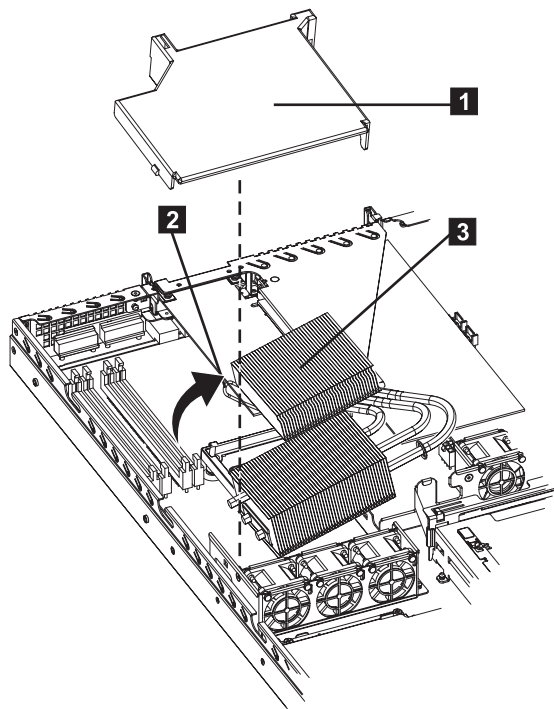

Figure 179. SAN Volume Controller 2145-8A4 air baffle and heat-exchanger assembly
5. Remove the air baffle (**1** in Figure 179). Grasp the air baffle by the leftmost and rightmost rear corners and lift it up out of the node.
6. Open the heat-exchanger-assembly release latch (**2** in Figure 179) to the fully open position.
7. Lift the side of the heat-exchanger assembly (**3** in Figure 179) that is closer to the middle of the node, slide it toward the middle of the node slightly, and lift the entire assembly out of the node.